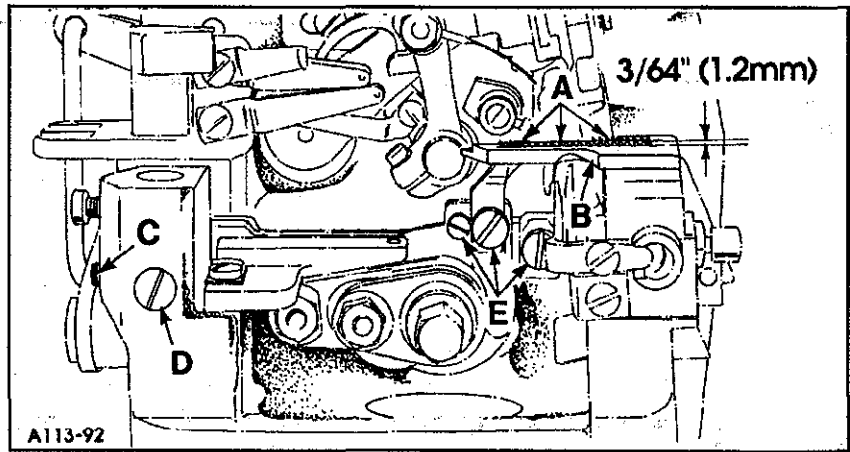

Fig. 14
Reassemble feed dogs (A, Fig. 14) and throat plate (B). Rotate the handwheel in operating direction until the feed dogs start to rise above the throat plate. The teeth of the main and differential feed dogs should be level with each other and parallel to the throat plate.
Turn the handwheel in operating direction until the feed dogs are at their highest point of travel. Loosen screws (E, Fig. 14) and set each feed dog to the height listed on Table VI.